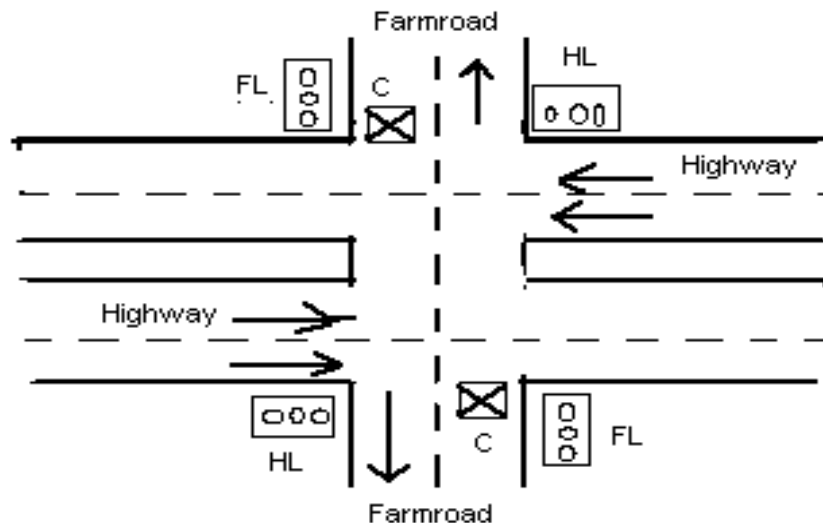

Figure 1: (a) Highway/Farmroad intersection – Placement of lights and sensors.
- The assertion of the CARDETECT input signal (denoted C in Figure 1) indicates the detection of a vehicle on the farm road. As long as CARDETECT is not asserted, the highway has right of way. When CARDETECT is asserted, the farmroad is granted right of way (subject to limitations below).